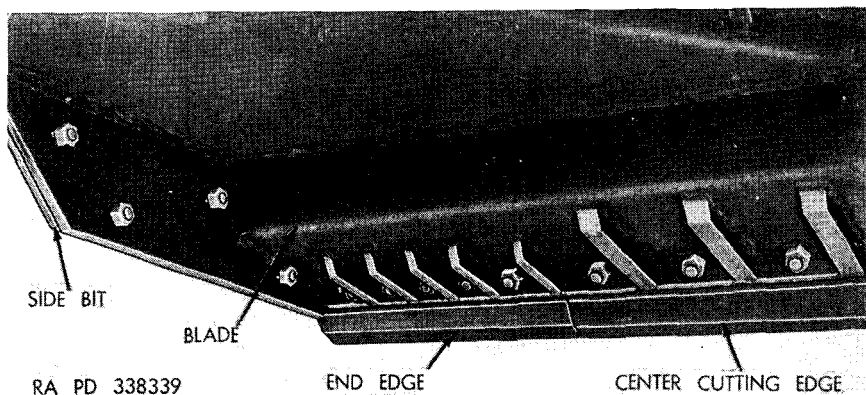
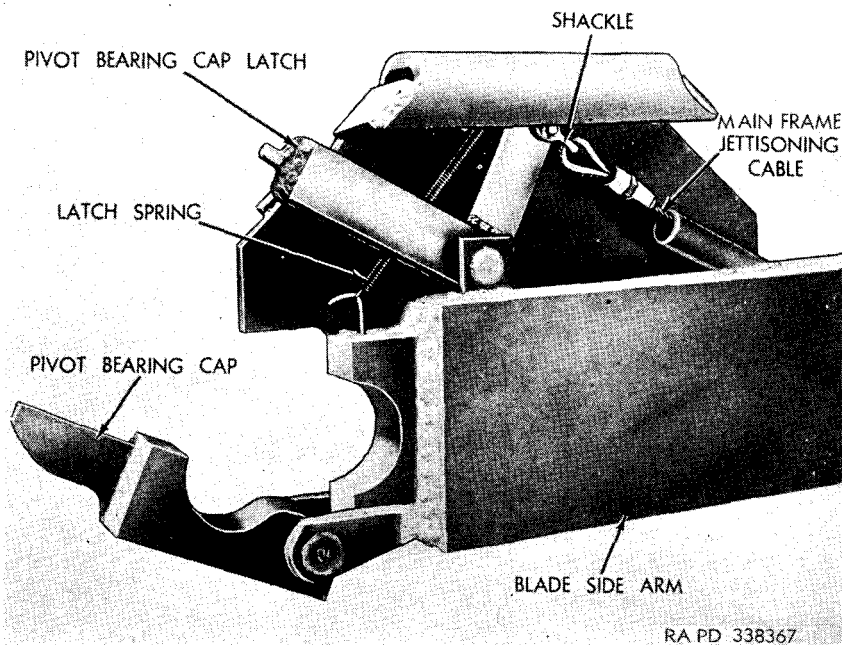

Figure 51. Cutting edges mounted on blade—bottom view.
Figure 52. Jettisoning cable arrangement in side arm end.
a. **DESCRIPTION.** The bulldozer blade is a welded steel construction consisting of a bulldozer blade with two sidearms which straddle the tank. The bottom of the blade has a removable hardened steel center edge and a bit on each corner and side (fig. 51). The end of each sidearm is constructed with a latch which holds the blade and sidearm on the mounting bracket pivot (fig. 52). A jettisoning cable is attached to each latch at the end of the sidearms, and runs
a. REMOVAL. Remove the end, center cutting edge, or side bit from the blade by removing their respective nuts and bolts (fig. 51).
a. MAIN FRAME JETTISONING CABLE. (1) *Removal.* Remove screw securing the main frame jettisoning cable to cable drum (fig. 53). Remove latch spring from latch (fig. 52). Remove shackle which connects the main frame jettisoning cable to the pivot bearing cap latch and pull out the jettisoning cable.
(2) *Installation.* Thread the main frame jettisoning cable through the tube at the rear of sidearm. Remove jettisoning cable tube fastened to blade with six screws (fig. 54). Fish out the cable and thread it through the tube and the tube in tripod. Fasten the jettisoning cable tube to blade. Connect cable at the rear to the pivot bearing cap latch with a shackle (fig. 52), and install latch spring.